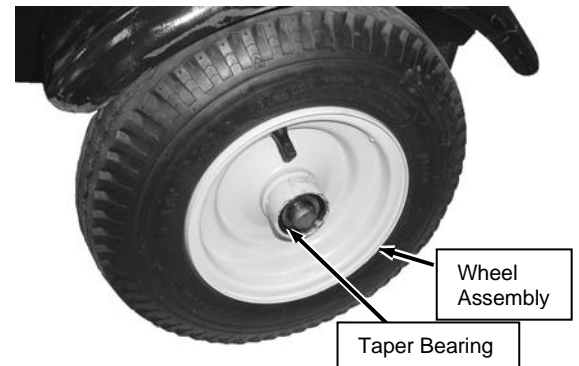

Figure 61
5. Screw the Castle Nut onto the Axle and tighten it with an adjustable wrench to seat the Bearings (**Figure 61**).